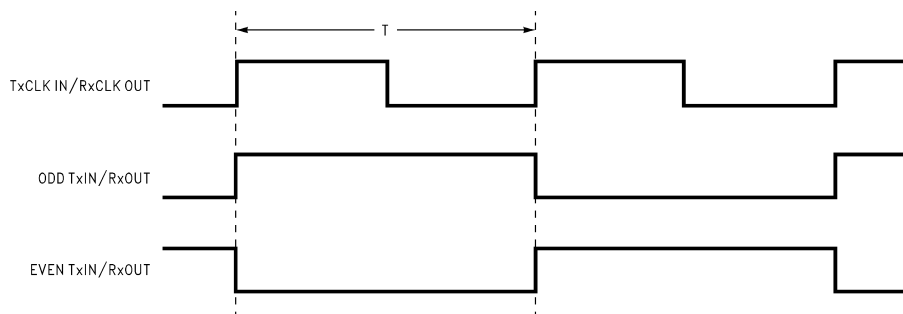

FIGURE 1. "Worst Case" Test Pattern
**Note 7:** Figures 1, 2 show a falling edge data strobe (TxCLK IN/RxCLK OUT).